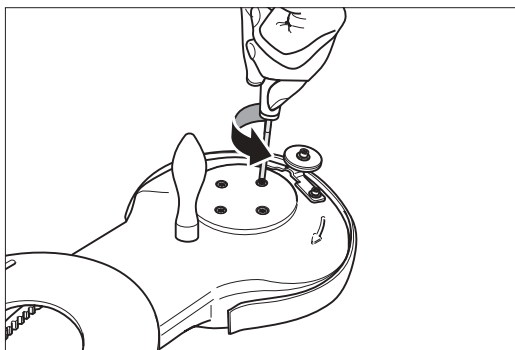
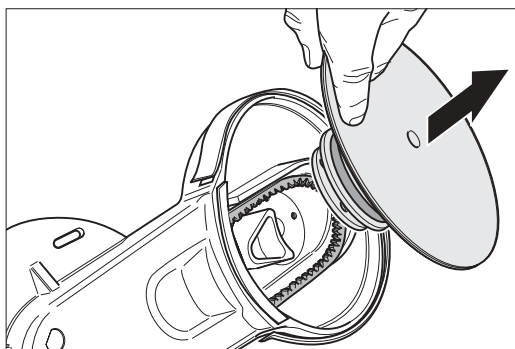

Fig. 66: Unscrewing the screws.
Fig. 67: Removing the complete sanding bearing unit.
- 9 Unscrew the screws all the way out (Fig. 66) and remove the complete bearing unit of the sanding disc wheel (Fig. 67). The sanding disc can remain on the sanding disc wheel.